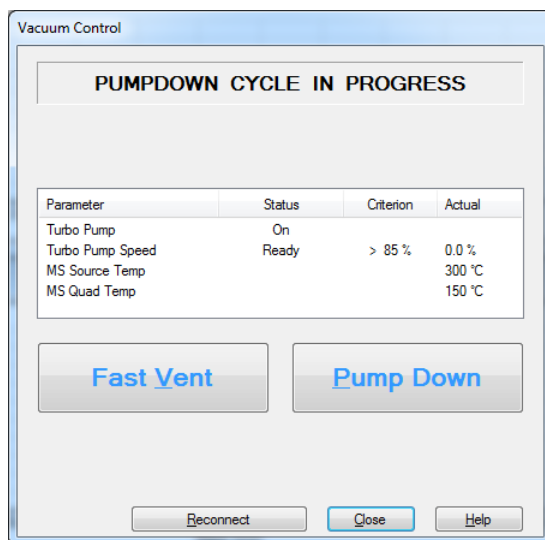

Figure 45 Vacuum control dialog
- 2 In the **Instrument Control view**, **Instrument menu**, select **MS Vacuum Control** to display the **Vacuum Control** dialog. (See **Figure 45** on page 137.)